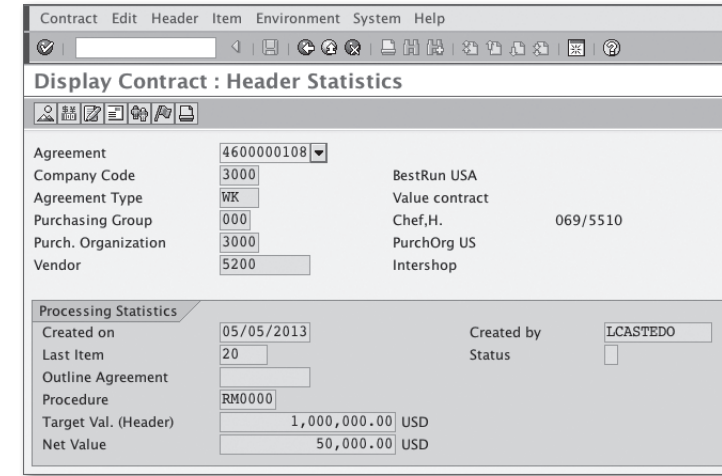

Figure 4.13 Contract Header Statistics Showing the Net Value and Total Target Value
**Contract release order** Each PO that is created with reference to the contract, known as a *contract release order*, is registered in the contract's history, and the item quantities and values entered in the PO are discounted from the contract's target value or quantity. To reach the statistics for the contract (see Figure 4.13), select the menu option **HEADER • STATISTICS • GENERAL**. After you get to the target quantity or value of the contract, you'll see a warning message or an error, depending on the configuration of your system, telling you that the maximum quantity or the maximum amount of the agreement has been reached.